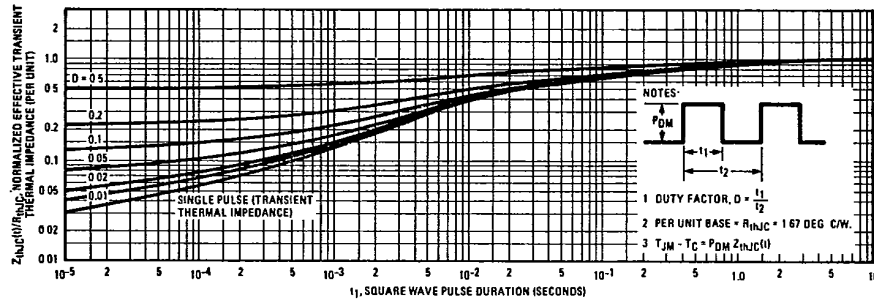

Fig. 5 - Maximum Effective Transient Thermal Impedance, Junction-to-Case Vs. Pulse Duration
① T_J = 25°C to 150°C. ② Pulse Test: Pulse width < 300μs, Duty Cycle < 2%. ③ Repetitive Rating: Pulse width limited by max junction temperature. See Transient Thermal Impedance Curve (Fig. 5).